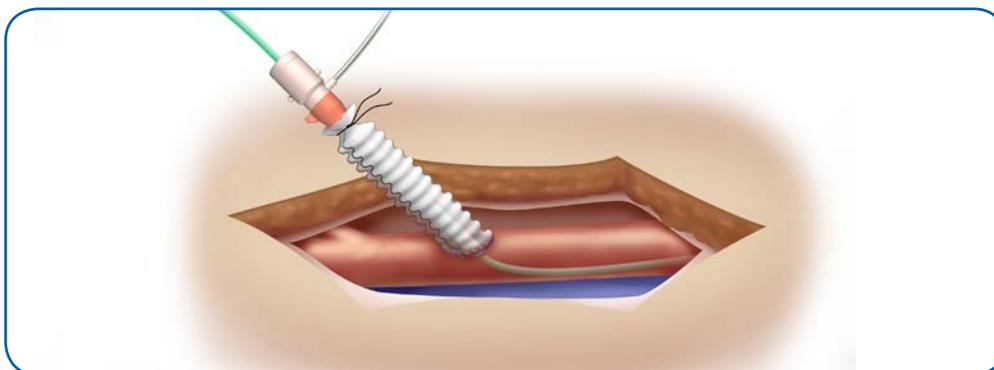

Figure 5.32 Femoral Artery Insertion of the Impella® 5.0 Catheter Using a Sidearm Graft
3. Attach the vascular graft using the standard end-to-side anastomosis (Figure 5.32).